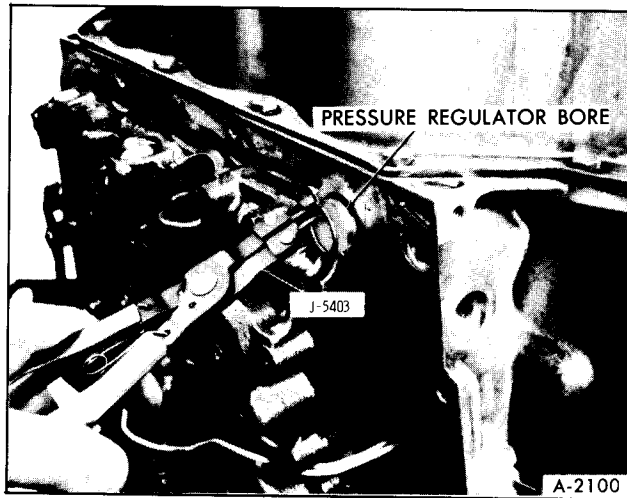

Figure 25—Removing Pressure Regulator Valve
1. Compress regulator boost valve bushing against pressure regulator spring and remove snap ring using Snap Ring Pliers, J-5403 (#21), Figure 25.